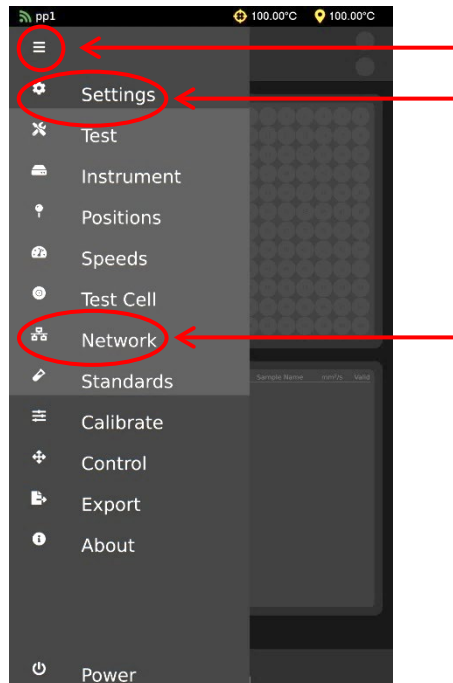

Figure 63: Network Settings Navigation
- a. From the **Main Menu** screen, select **Settings**, and then **Network**. See Figure 63.